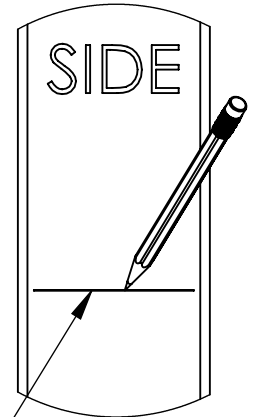

FIG. 1a
- Mark the SIDE of the gate frame with a horizontal line at the desired height of the latch handle. Use of a level is recommended. (Fig. 1a)